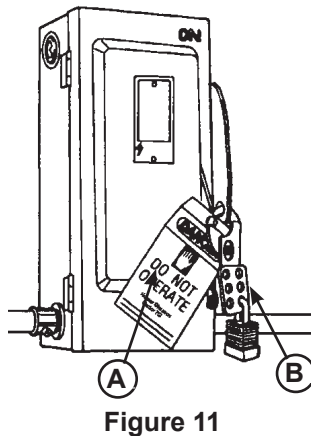

Figure 11
When working with electrical or electronic controls, make sure that the power source has been tagged (A) and locked out (B) according to OSHA regulations and approved local electrical codes (see Figure 11).
- Clean and lubricate slide block track and push rod areas (see Figures 13 and 14). Lubricate pins for the “Z” bar (Figure 11). Inspect and clean proximity switches.